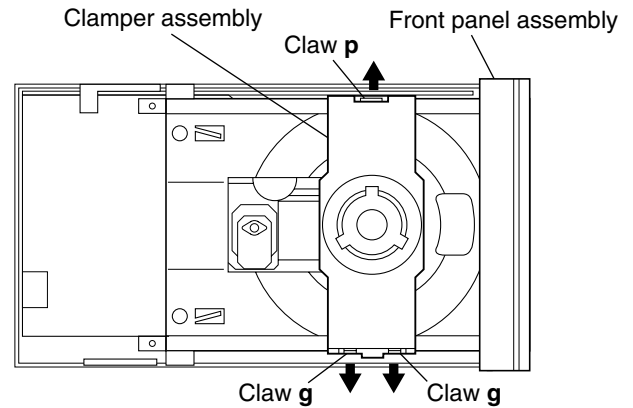

Fig.30
■ Replacing the CD pickup unit (See Figs. 30 to 33.)